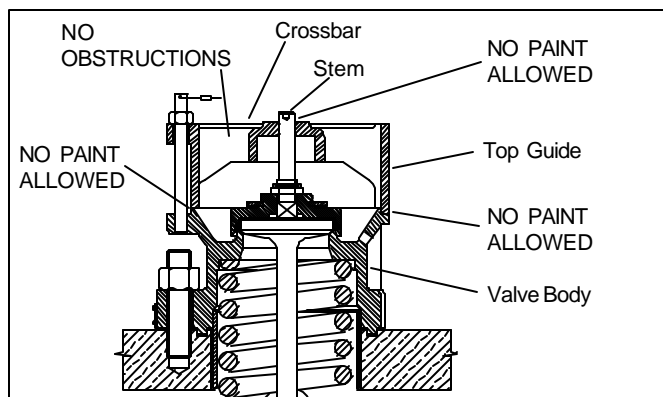

Figure 4 - Top Guide Unpainted Areas
9) Hold the valve by the cross bars (if applicable, Fig. 4) of the top guide and lower it gently into the mounting. If the valve is a top-style design (spring and other parts are above the valve's orifice), grip the top guide above the valve body to position the valve tongue into the mounting groove..
The top guide (Fig. 4) is principally a structural part. There should be **no paint** on the guide bushing of this part where the valve stem enters it, or between the adjacent surfaces of the top guide and valve body.